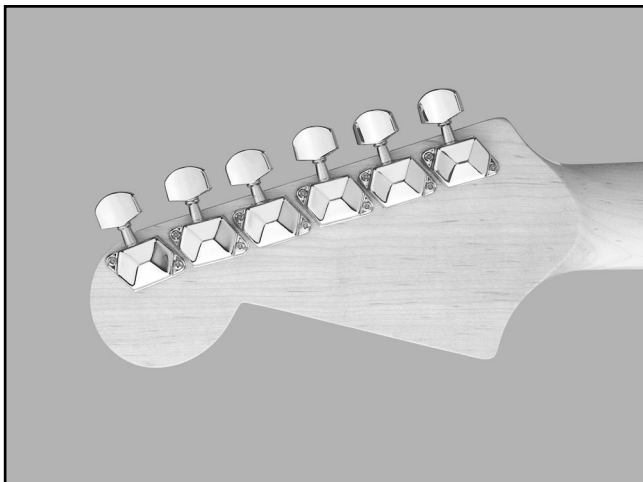

Figure 11. Correctly positioned tuning machines.
5. Secure the machine heads to the guitar headstock with the included twelve $\frac{1}{2}$ " wood screws (**Figure 11**).